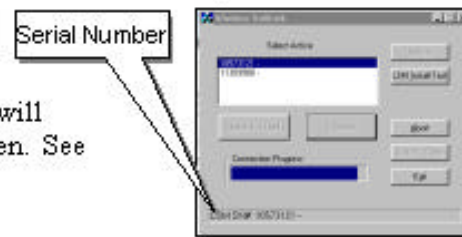

Figure 6-6
When the LSMC locates and connects with the appropriate LSM, the appropriate LSM serial number will appear in the information bar at the bottom of the screen. See Figure 6-6.
**Note:** When an LSM does not respond to a search the error message in Figure 6-6 will appear on the WSL screen. Press **Retry** to continue or **Cancel** to cease the search effort.